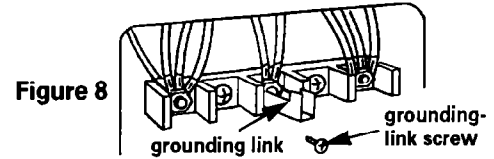

Figure 8
8. Remove the grounding-link screw from the range frame. Save the grounding-link screw. Bend up the grounding link so that it does not contact the range. See Figure 8.